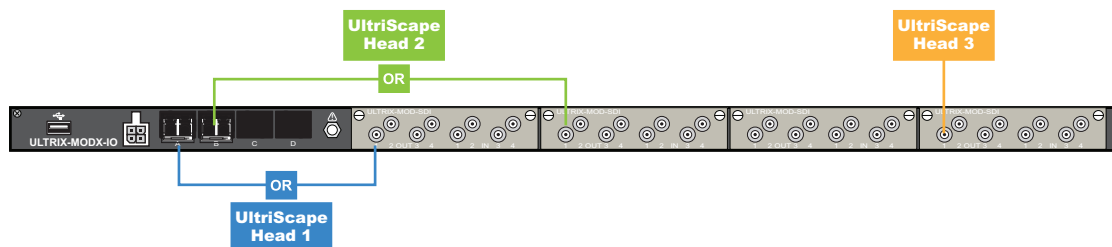

Figure 31 Example of UltraScape Head Mapping on a Single ULTRIX-MODX-IO Blade with Four ULTRIX-MOD-SDI
- One Multiviewer Head (refer to **Figure 31**)
Figure 31 illustrates the connections allocated for UltraScape Heads on an ULTRIX-MODX-IO with four ULTRIX-MOD-SDI.